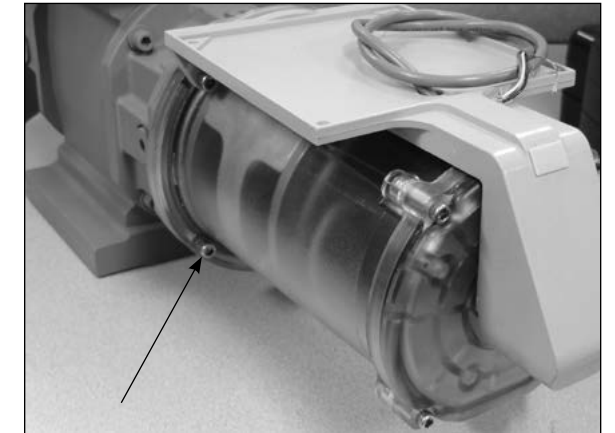

Figure 10.40 - Insert the 3/4 inch (short) screw
- C. Insert the remaining 3/4-inch (short) screw into the open hole on the back side of the unit as shown in Figure 10.40. Do not tighten.